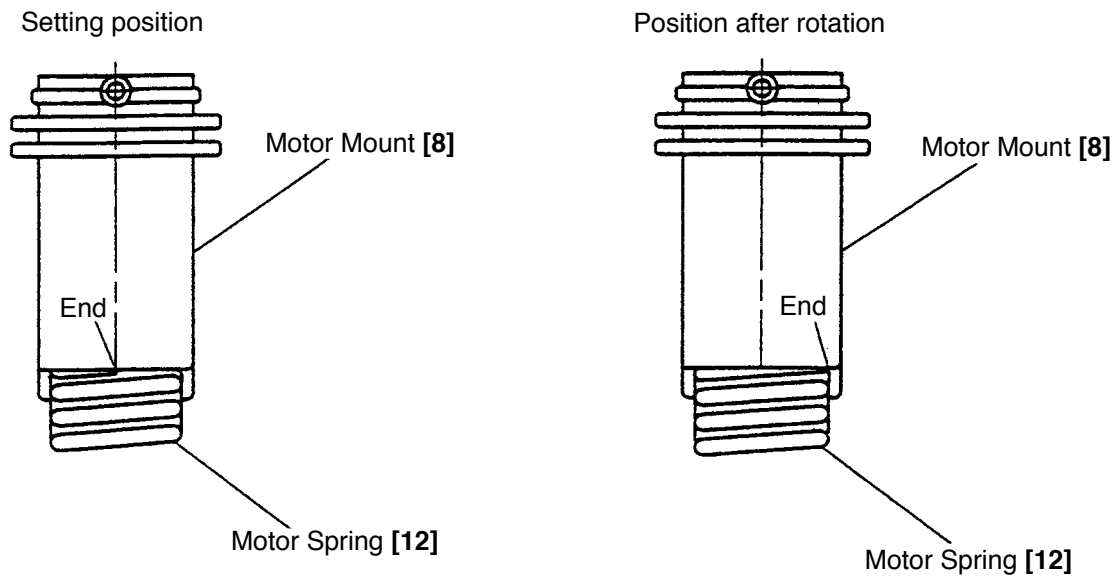

Fig. 27
- Align the end of the Motor Spring [12] with the center of the Motor Mount [8] and rotate it as shown in Fig. 27.